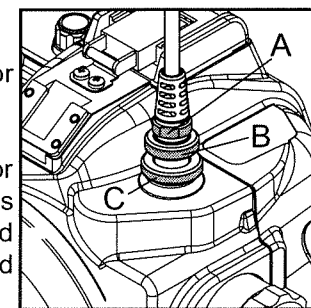

Fig.12
4. Rotate part (B) clockwise till secure (Fig. 12).
5. Turn part (C) till it securely holds the bulkhead connector to stay.
6. To disconnect, loosen and release the connector end by reversing steps 1-5 above. Pull part (A) straight out. Never pull, twist or bend the cord for disconnection.